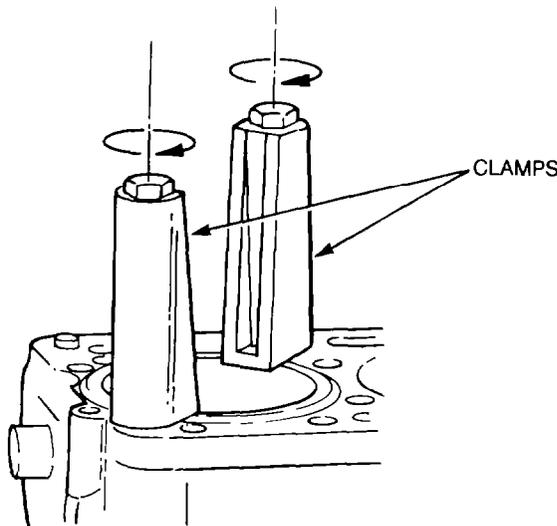

Figure 19 — Cylinder Liner Clamp — Installation
- s. Secure the two cylinder liner clamps, from special tool 3376669, 180° apart on the cylinder liner bead (see Fig. 19) using two cylinder head bolts torqued to 70 Nm (50 lb.ft).